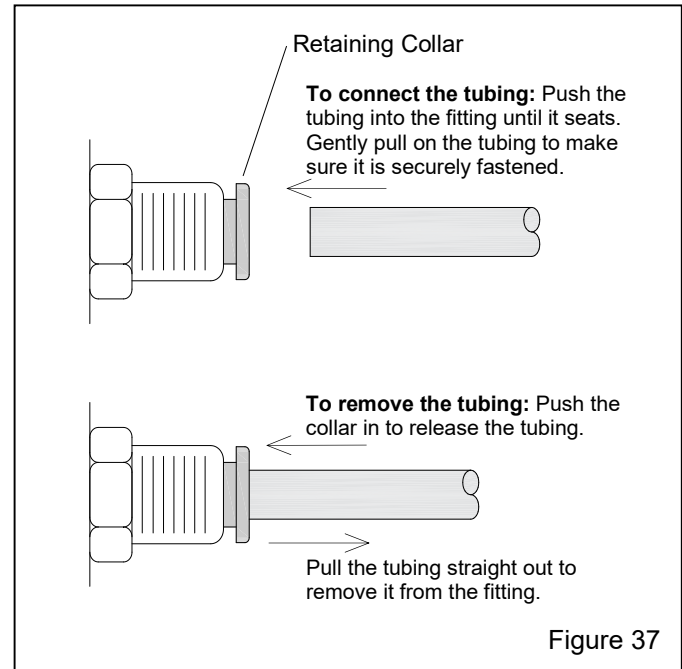

Figure 37
7.9 Tube-Lock Fittings – Figure 37